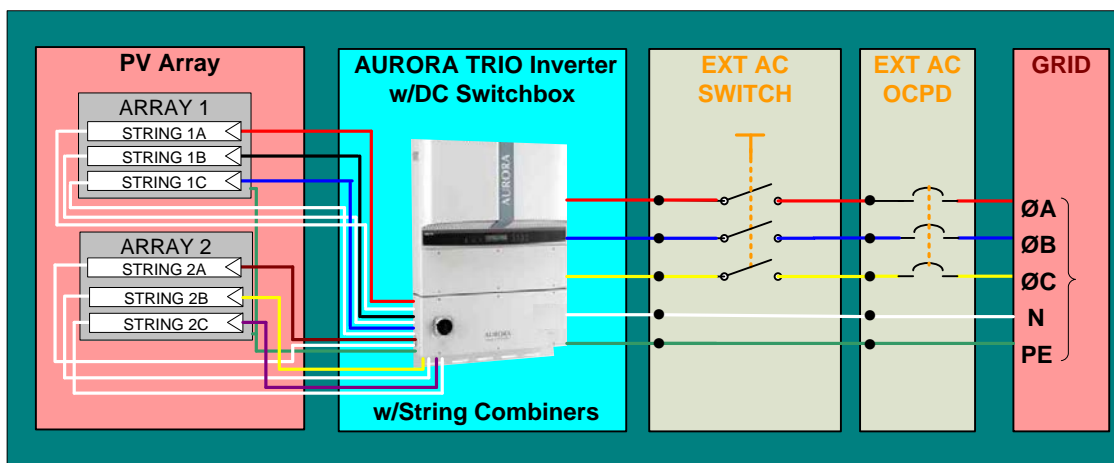

Figure 3:05- Electrical Connection Diagram
- Relevant wiring connections are shown in Figure 3:04
1. Refer to the photo of Figure 3:03. Locate the designated entry locations for the conduits from the DC array and to the AC grid.